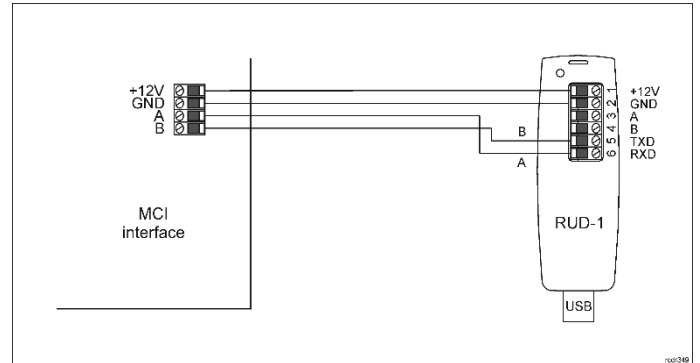

Fig. 2 Connection of the MCI-5 to RUD-1 interface for firmware update
The update requires connection of MCI-5 to computer with RUD-1 interface (fig. 2) and starting RogerVDM software. The latest firmware file is available at www.roger.pl.
1. Connect the device to RUD-1 interface (fig. 2) and connect the RUD-1 to computer's USB port.